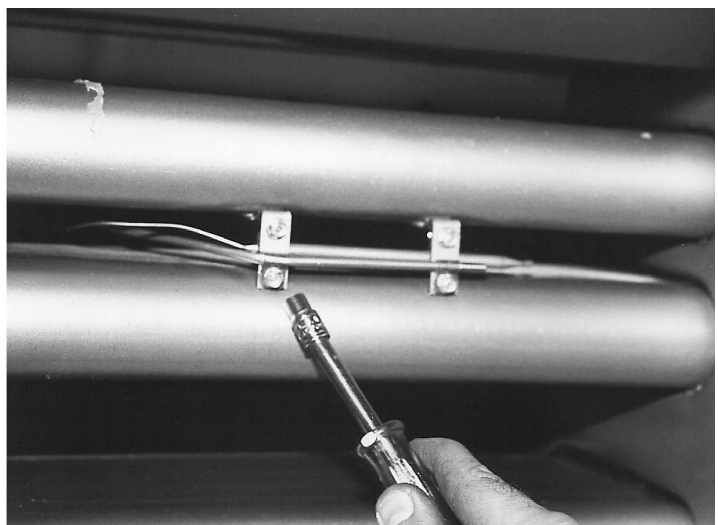

Figs. 15
3. With a 1/2" wrench remove the thermistor packing nut. (Figs. 15)